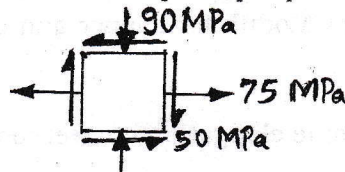

Fig. 6
Q. 5) a) If 2-D stresses at a point in a strained material are as shown in Fig. 6: compute principal stresses and locate the principal planes. [6]